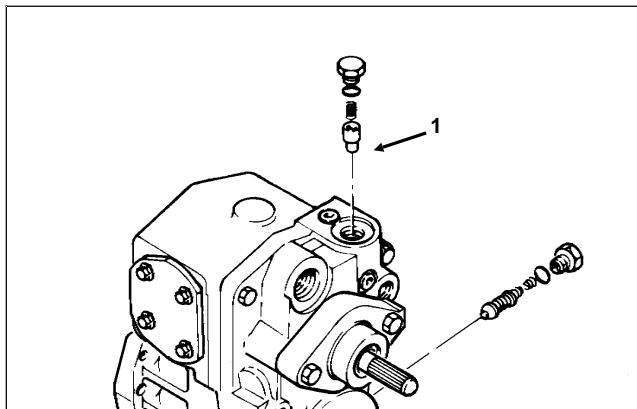

Figure 34
2. Remove the heat exchanger bypass valve hex plug (Fig. 34).